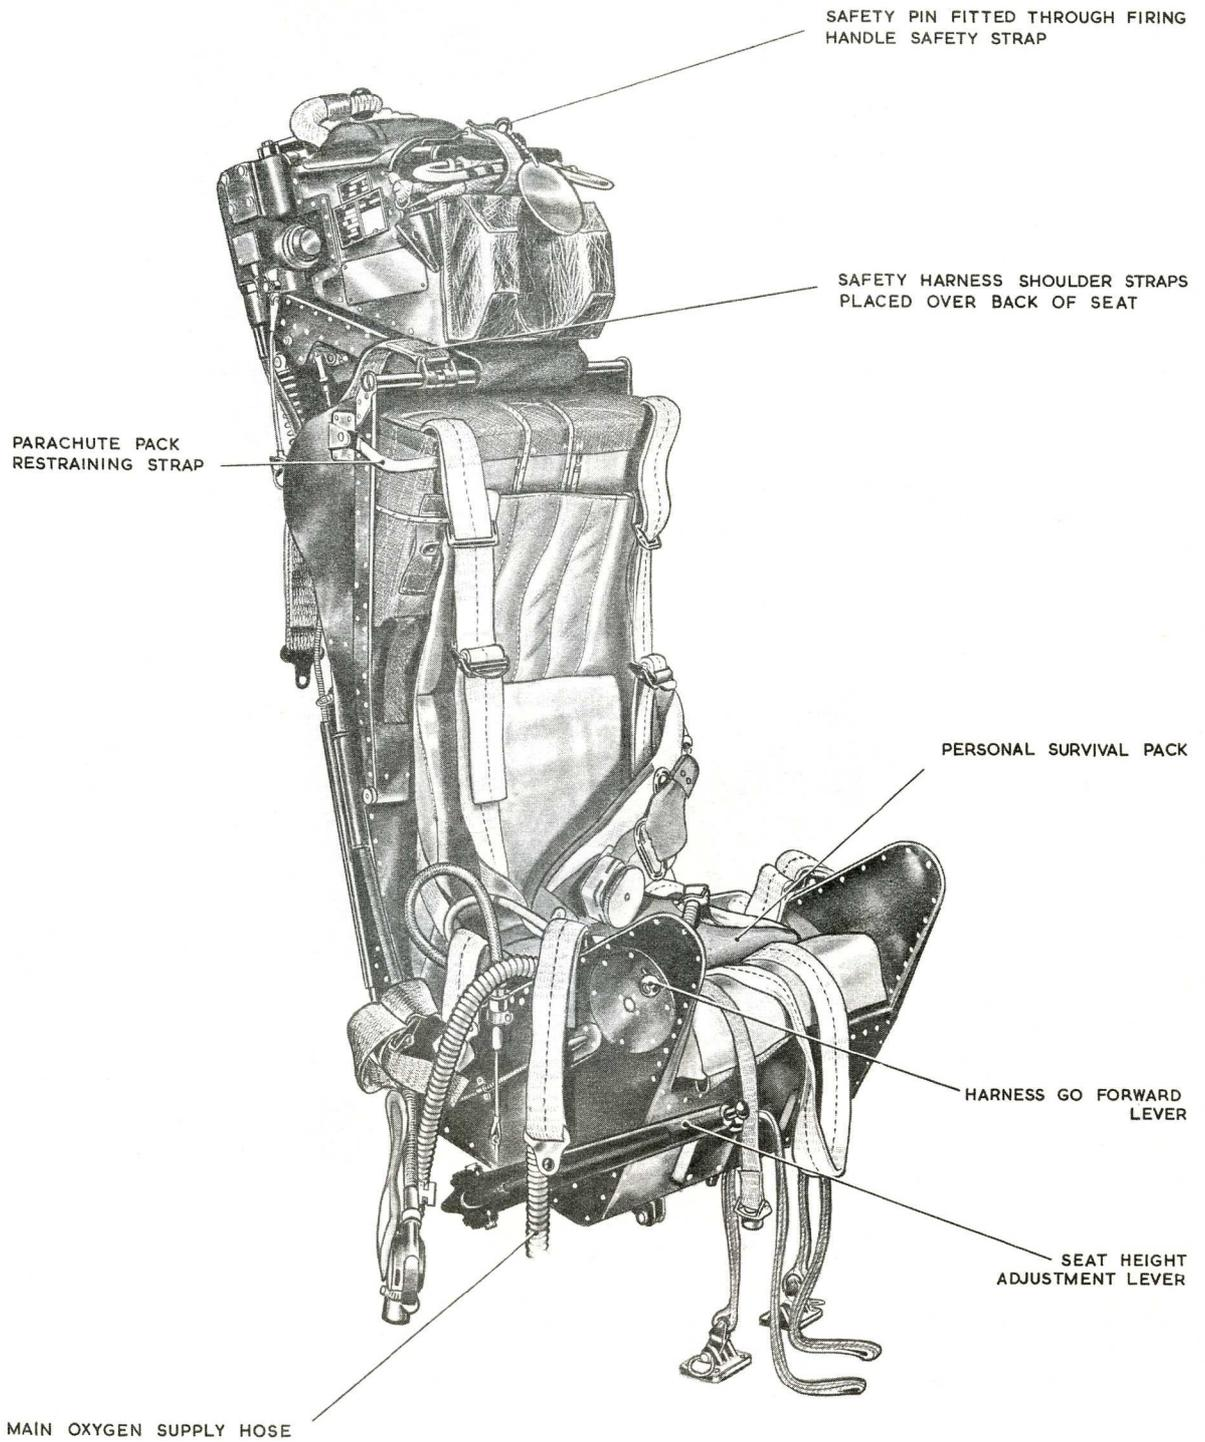

Fig. 1. The seat equipped (1)
9. The following procedure is to be used when installing the equipment in the seat, refer to fig. 1 to 4 for detail as necessary :-